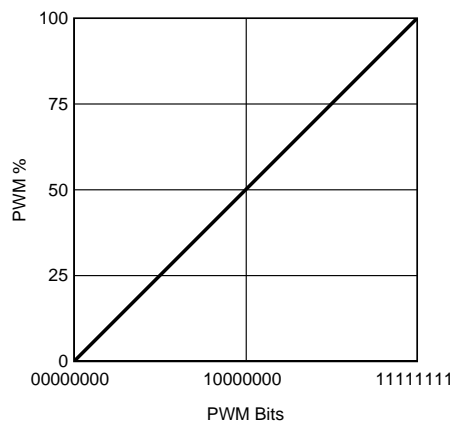

Figure 23. Direct PWM Control Bits vs PWM Duty Cycle
- These bits set the D1 output PWM as shown in Figure 23. Note: if the temperature compensation is active, the maximum PWM duty cycle is 50% at 25°C . This is required to allow enough headroom for temperature compensation over the temperature range -40°C to $+90^{\circ}\text{C}$.